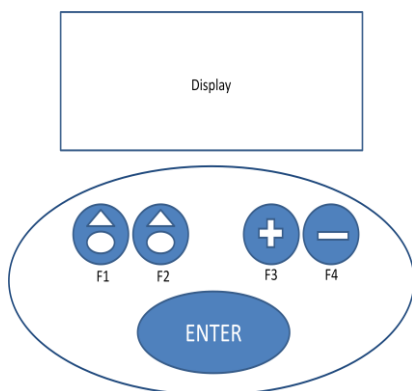

Figure 1. Fluido 2 Keypad and Display
4. The main menu is displayed upon start-up. Selections in the display can be made by using the keypad directly below the screen (fig. 1). Options within the main menu: